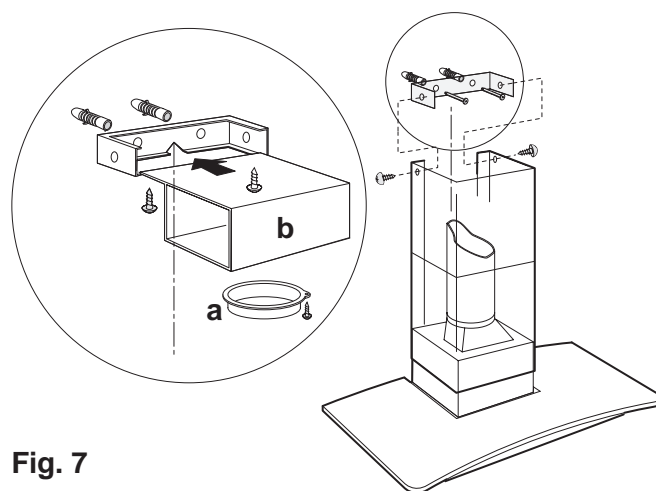

Fig. 7
- Dismount the chimney support from the chimney unscrewing the two side screws (one per side of the chimney- conserve them). (Fig. 7)
- Dismount the deflector "b" from the chimney support unscrewing the two screws that fix the deflector to the chimney support (conserve the screws). (Fig. 7)
The support has a reference mark, this must match the line previously drawn on the wall. (Fig. 7)
- Insert two wall dowels and fix the telescopic chimney support with two screws 5x45. (Fig. 7)
- If not already fitted, fit the connection ring (a - Fig. 7) supplied (bajonett attachment - turn clockwise and fix with a screw) on the deflector b.
- Insert the deflector in the chimney support and fix it with two screws (Fig. 7).
- Fix the chimney top part on its support with two screws (Fig. 7).
- Slide the lower section of the chimney downwards and insert it on its proper housing on the upper side of the hood (Fig. 7).